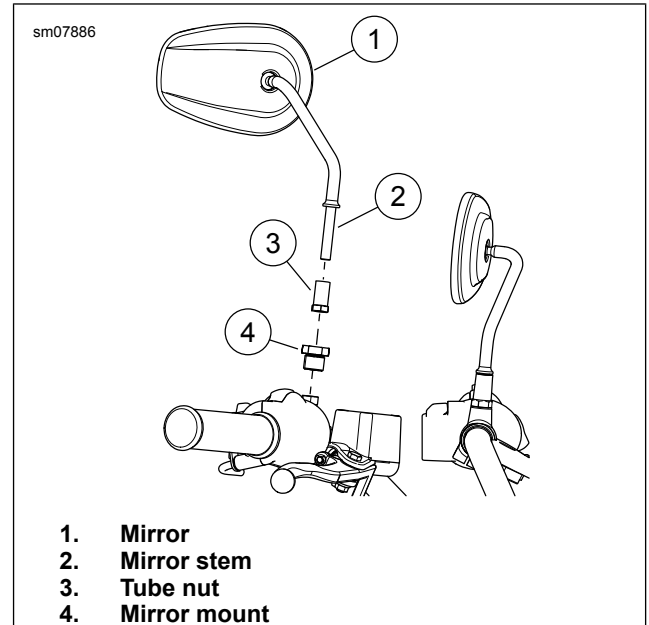

Figure 1. Mirror
1. See Figure 1. Remove mirror.
- a. Remove mirror (1).
- b. Remove tube nut (3).
- c. Remove mirror mount (4).
2. See Figure 1. Install mirror.
- a. Install mirror mount (4). Tighten to 11.7–14.3 N·m (104–126 in-lbs).
- b. Install tube nut (3) to mirror stem (2). Hand-tighten.
- d. Adjust mirror (1).